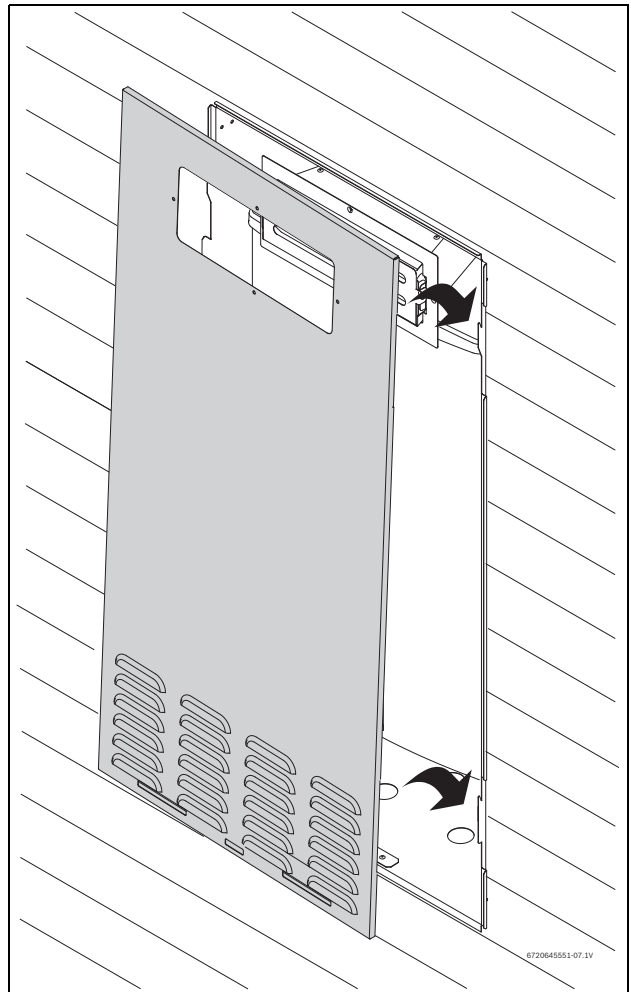

Fig. 18
► Position the recess box cover as shown in Fig. 18.